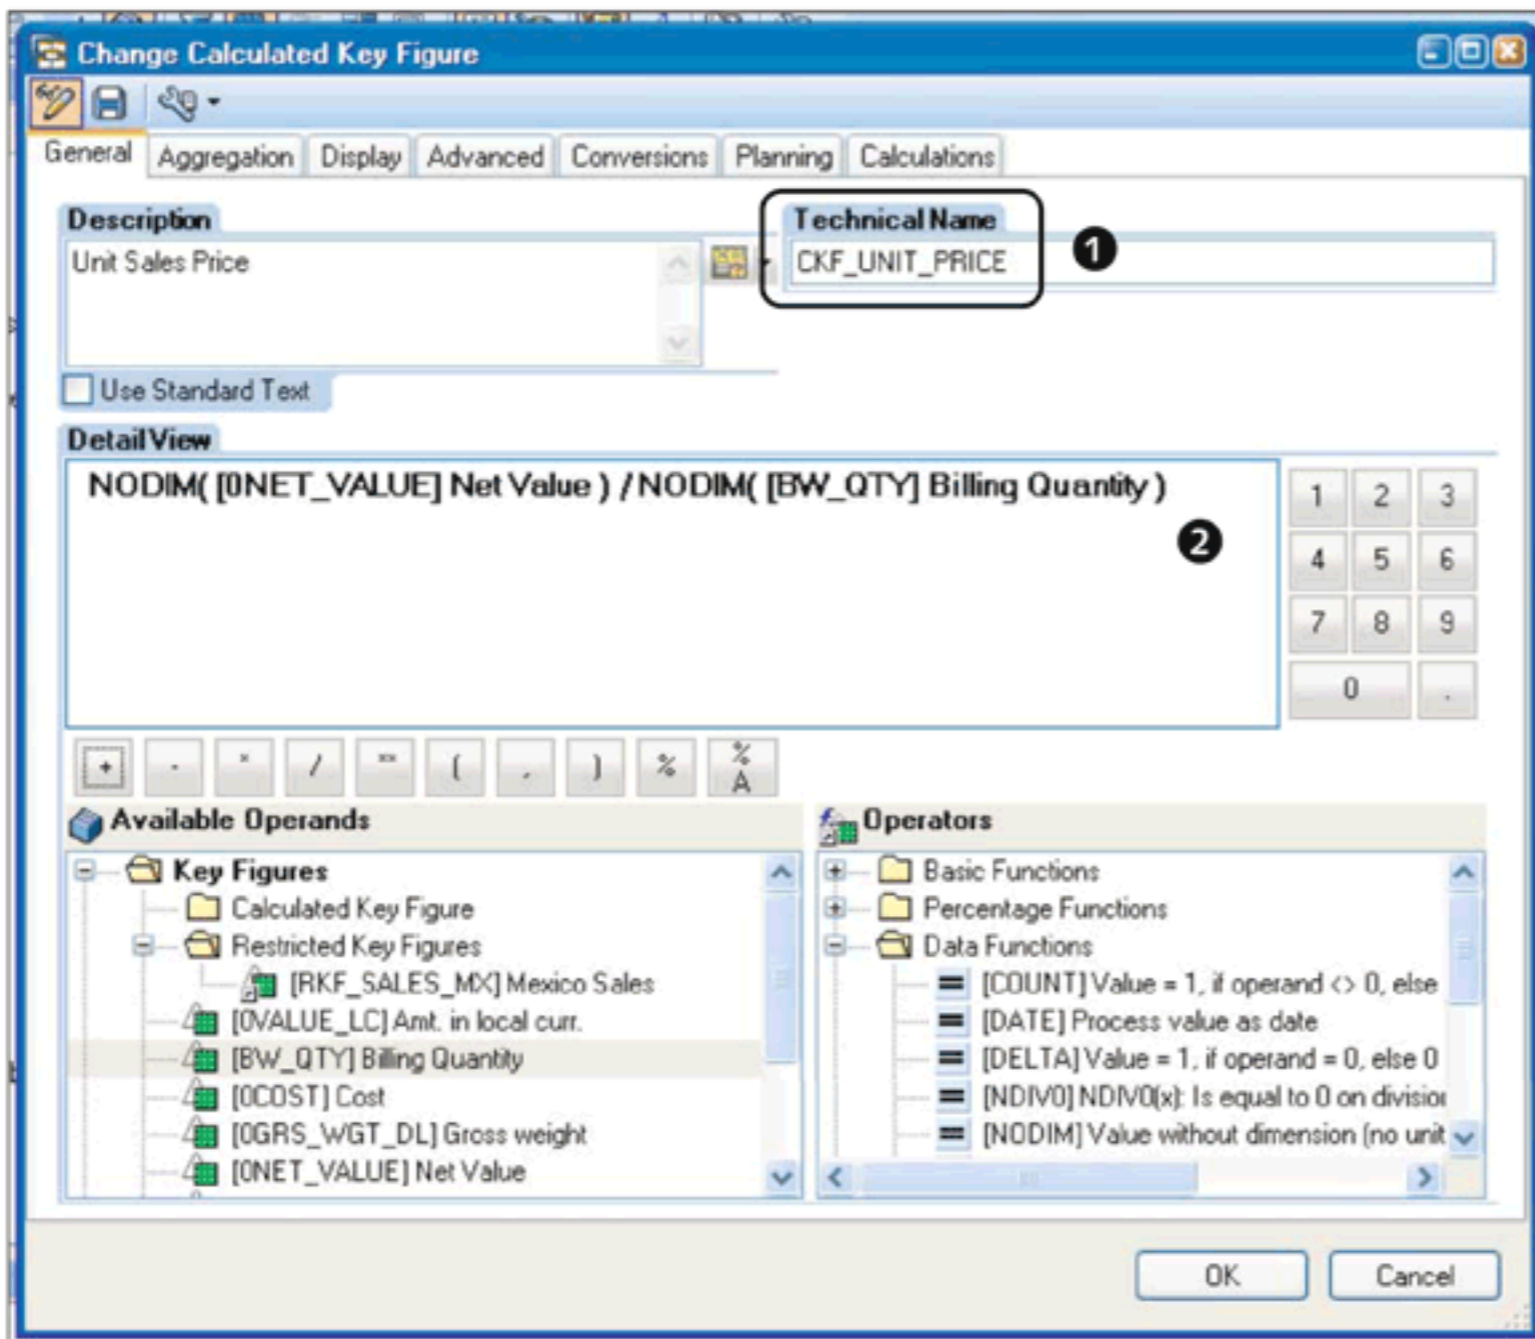

Figure 9.65 Define CKF
Define the CKF in the pop-up box, as shown in Figure 9.65. You have to maintain the DESCRIPTION and the TECHNICAL NAME for the CKF (1). Further, define the formula logic in the DETAIL VIEW section for the CKF (2). After the definition is complete, click on the SAVE button on the toolbar.